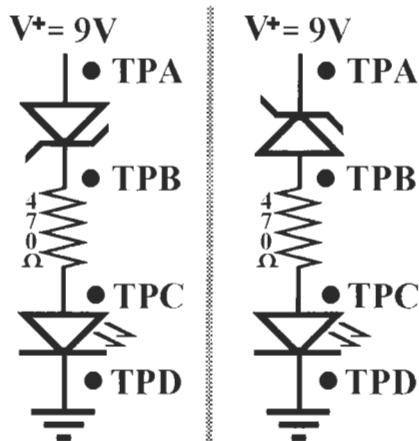

Figure L34-5
- Now check out the actual effects of the zener diode (see Table L34-3). Figure L34-5 shows two circuits. Breadboard each separately and do the measurements. Note the LED in each.